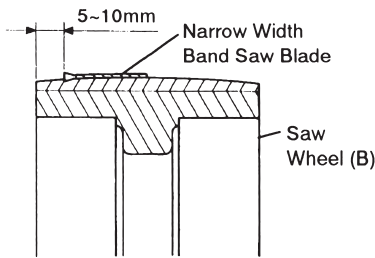

Fig. 23
- (c) While rotating saw wheel (B) alternately clockwise and counte-clockwise by hand, use the band saw blade position adjustment knob to set the band saw blade to the position illustrated in Fig. 23.